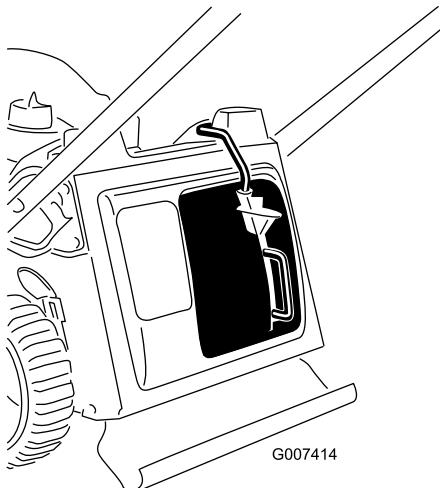

Figure 11
3. Release the button on the lever and ensure that the top of the lever is lies fully in the switch channel (Figure 11). **If the top of the lever is not in the switch channel, your machine will not start.**